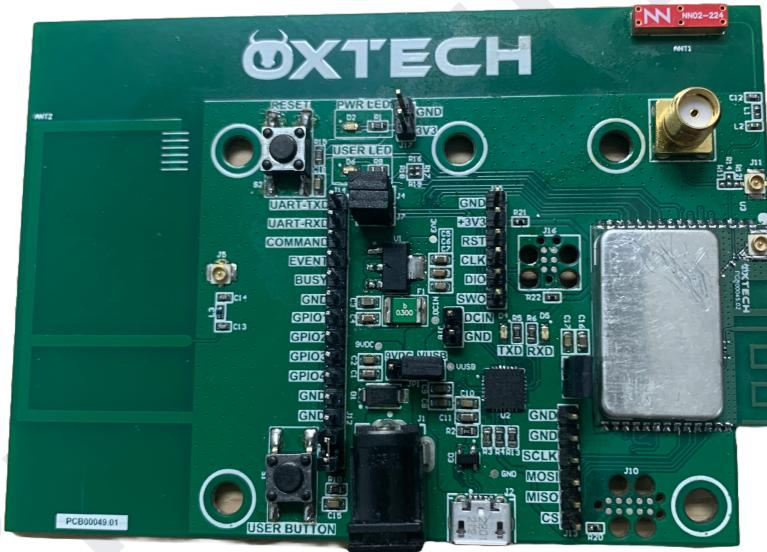

Figure 3: MCM evaluation board
- Figure 3: MCM evaluation board